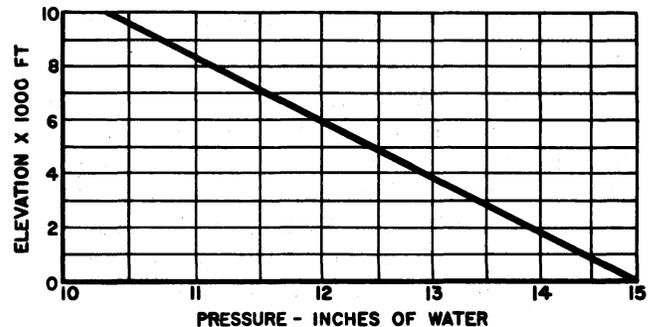

Fig. 1 - Minimum Pressure in Tube Cooling System for Altitudes From Sea Level to 10,000 Feet
1.04 The minimum pressure attained in these requirements shall be that shown in Fig. 1.
Requirement: The pressure indicated should be that shown in Fig. 1.
Requirement 2: The minimum pressure indicated should be that shown in Fig. 1.